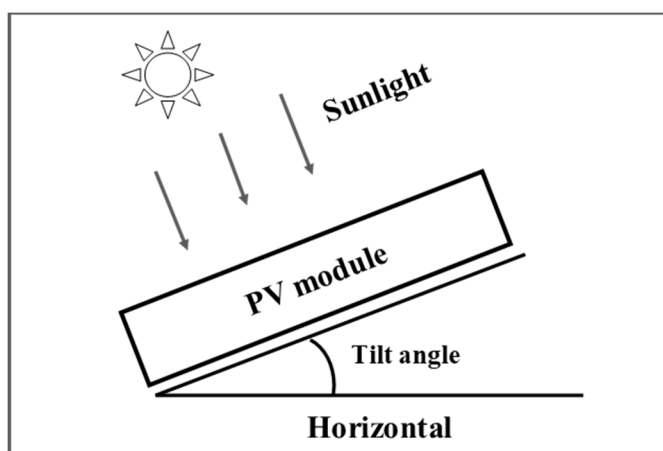

Fig. 5-1 Tilt angle
- According to IEC62716 “Ammonia corrosion testing of photovoltaic (PV) modules”, HD HES modules can be safely installed in ammonia-heavy environments, such as farm, meadow and so on. IEC62716.
- Installation inclination refers to the Angle between the module and the ground plane, as shown in Figure 5-1.